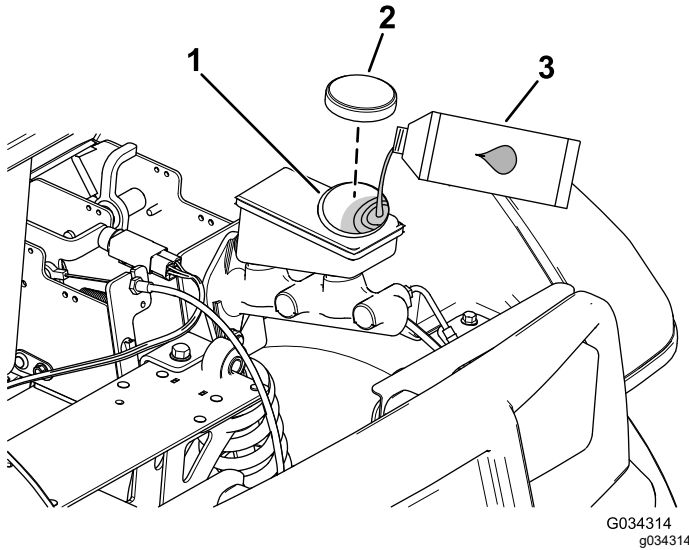

Figure 67
4. Raise the hood to gain access to the master-brake cylinder and reservoir (Figure 67).
- A. Clean the area around the reservoir cap and remove the cap (Figure 67).
- C. Install the reservoir cap (Figure 67).